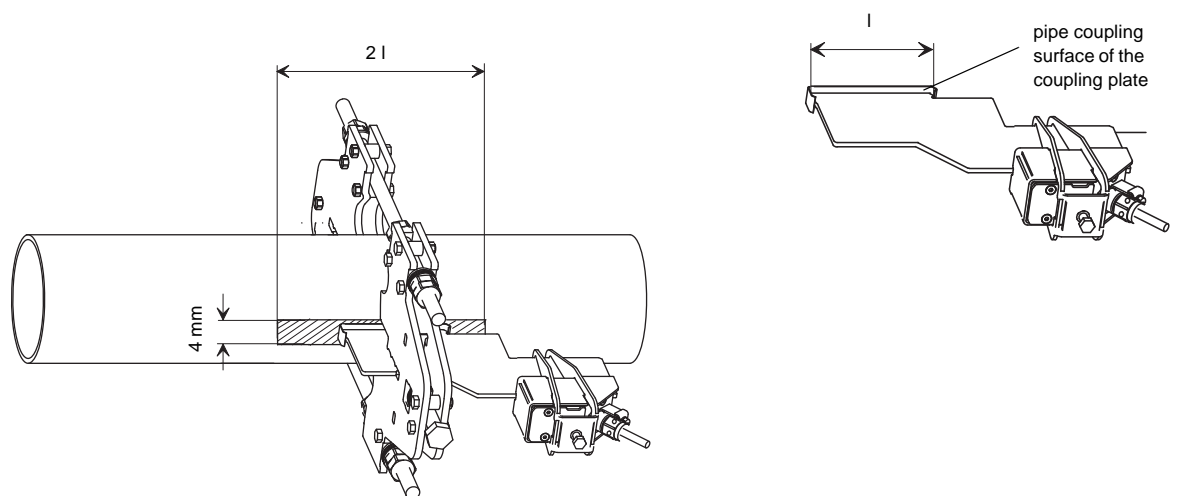

Fig. 3.7: Smoothed surface
- The surface to be smoothed should have the following dimensions: width = 4 mm, length = $2l$, where l is the length of the pipe coupling surface of the coupling plate (see Fig. 3.7).